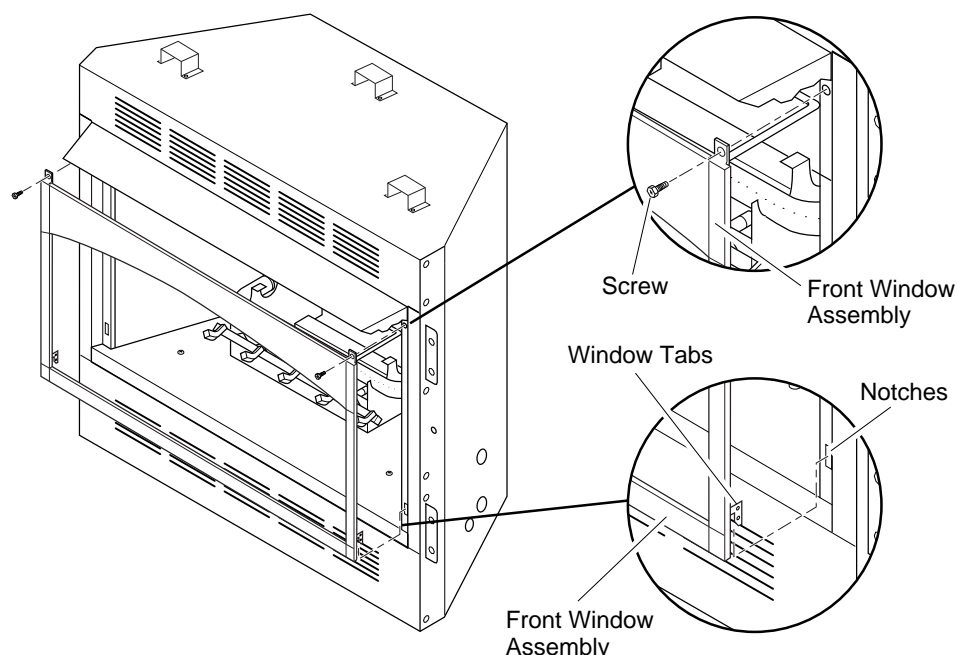

Figure 26 - Installing Fireplace Front Window Assembly
2. Install front window assembly to front of fireplace by slipping bottom window tabs into rectangular notches on fireplace front (see Figure 26). Then insert and tighten two screws through the top corners of the window assembly and fireplace front.